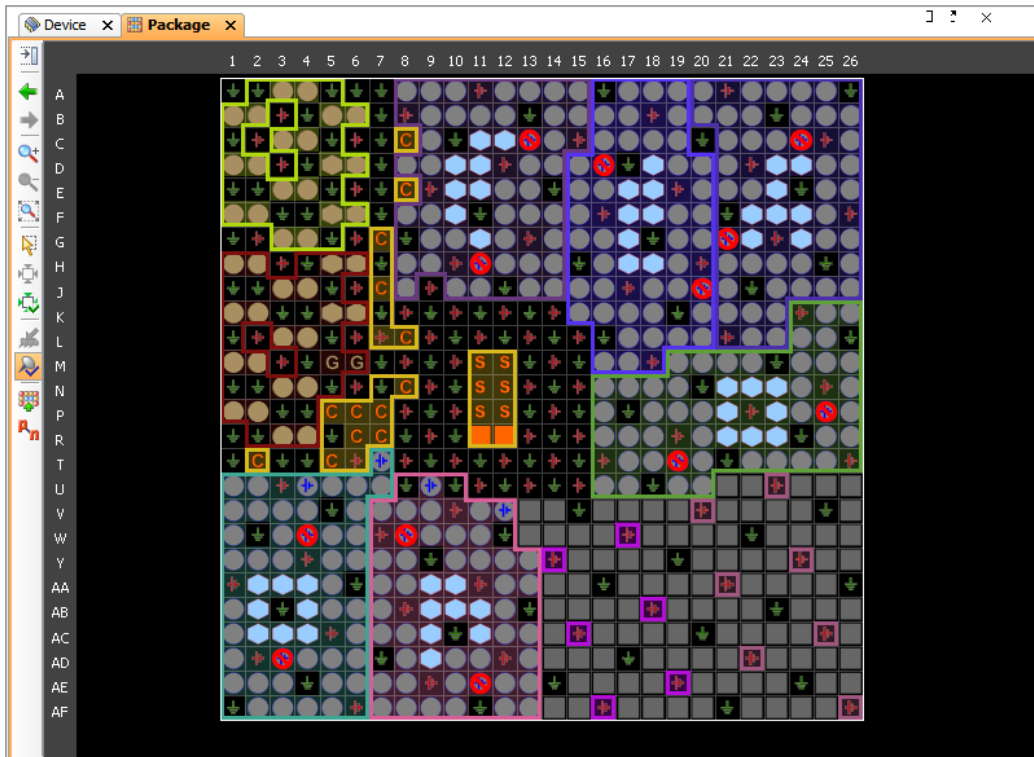

Figure 8: Prohibited V_{REF} Package Pins
6. In the Package window, zoom in to an area to view the prohibited pins, as shown in Figure 8.